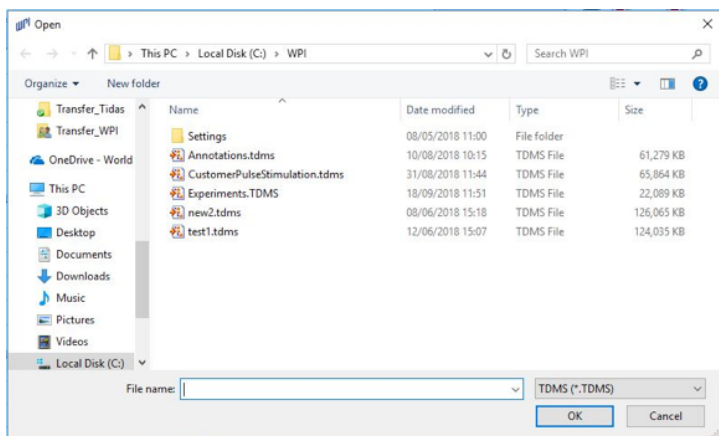

Fig. 22—Select the folder in which data files are saved during the experiments. Each TDMS file can contain multiple experimental runs.
- **Path to location of data file**—Type the path to the location where the data files will be recorded in the experiment. If you prefer, use the **Browse** (📁) button on the right-side of the path box to select the location of the file folder. When the Windows Explorer window appears, navigate to the folder where you want to store your files (Fig. 22). The default setting is: **C:\WP\Experiments.tdms**.